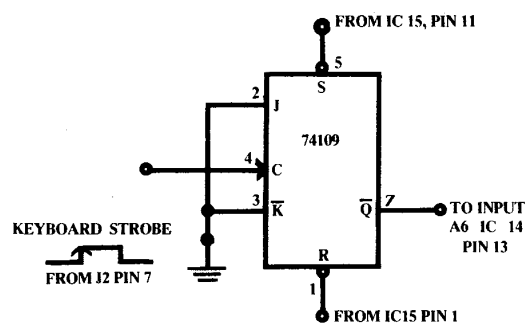

Fig. 2
**The keyboard strobe.** This circuit tells the processor when a key has been pressed. You'll need to install an additional IC (preferably in a 16 pin DIP socket) in the unused IC pad in the lower right corner of your 3P+S, and connect it to pin 7 of J2. It's used to condition the strobe. Use a 74LS109 or 74109. (Figure 2)